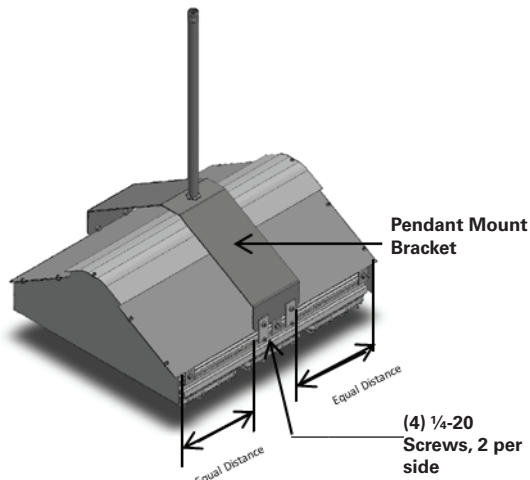

Figure 2
1. Install the pendant mount bracket with the hardware provided, (4) 1/4-20 screws, See figure 2. Center the pendant mount bracket on luminaire, see Figure 2. Measure from each end of the luminaire to the edge of the pendant mount on each side. The distance from side to side should be equal or within 1/16" to each other. Tighten the 1/4-20 screws to 65 in-lbs and tighten the 10-24 screws to 21 in-lbs. **DO NOT REMOVE MOUNTING TAB RETENTION SCREWS.** If mounting tab retention screws are removed, make sure to re-install and tighten to 65 in-lbs torque.